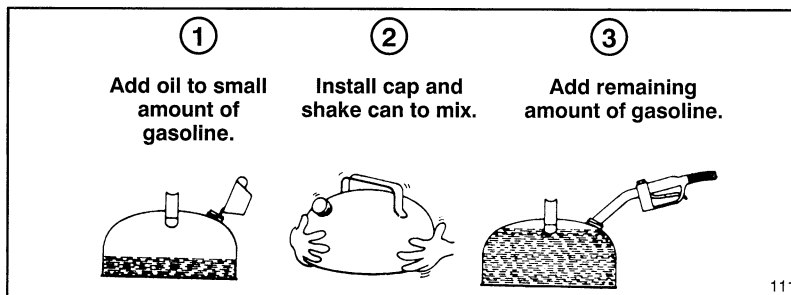

Figure 8
2. **Mixing Gasoline and Oil** (Fig. 8)—Pour half a gallon of gasoline into an approved gasoline container and add correct amount of two-cycle oil. Reinstall cap on gasoline container and shake the container to mix oil and gas thoroughly. Remove cap and add remaining amount of gasoline.